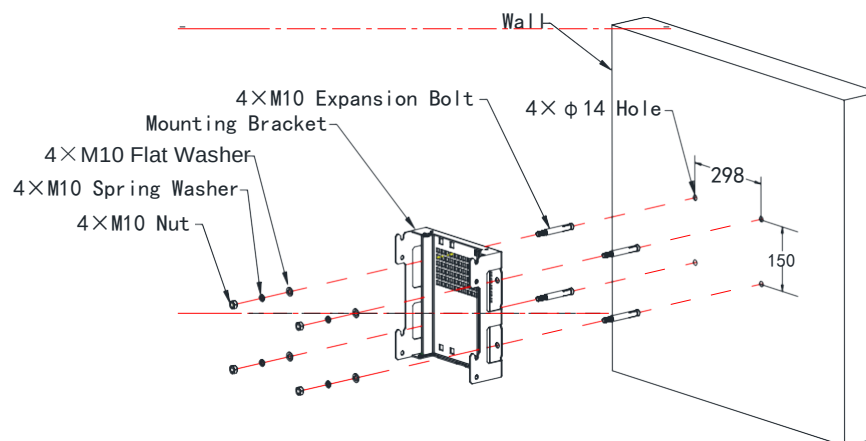

Figure 5 Mounting Bracket Installation Diagram
Step2: use hammer push 4 M10 expansion bolt into the hole of the wall, fix the mounting bracket (ADAS-S5100-5812) to the wall according to the Figure 5.